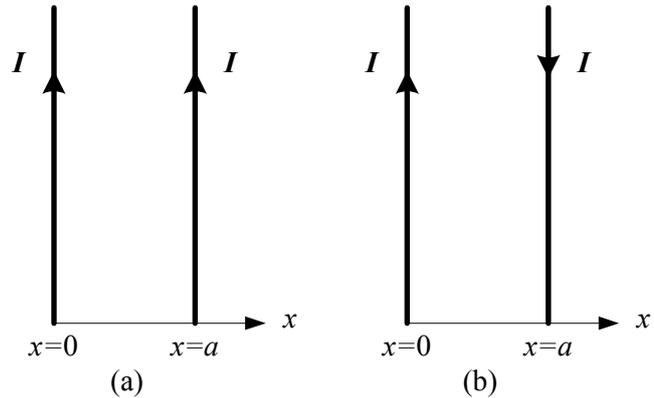

Figure 2: Two parallel straight conductors with (a) currents in same directions (b) currents in opposite directions
where a is the distance between the conductors. Equation (2) applies to the case when the currents flow in the same direction and equation (3) applies when the currents flow in the opposite directions as shown in figures 2 (a) and (b) respectively.